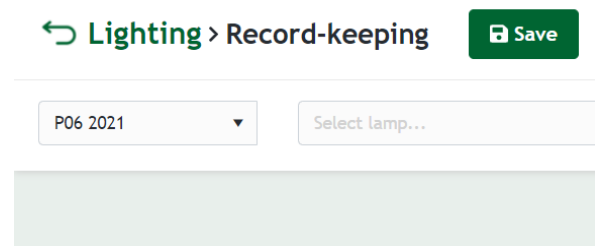

Figure 16
3. Click on '+ Record for a period'. A screen will open as shown in figure 16.